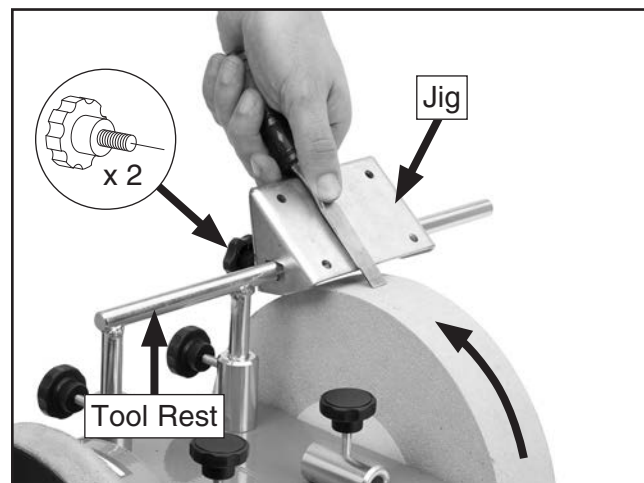

Figure 3. Example of grinding chisel with jig.
3. Slide jig onto tool rest and install (2) M6-1 x 22 knob bolts (see **Figure 3**).
7. Rest workpiece against jig (see **Figure 3**), then use firm grip to guide it against surface of grinding wheel to perform operation. Move workpiece back and forth across surface of wheel while grinding to prevent excessive or uneven wheel wear.